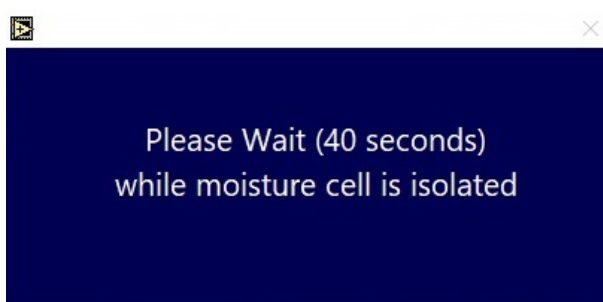

Figure 26: Isolate Warning
- **Isolate Sensor** closes the upstream and downstream valves for the moisture cell. This is done to prevent moisture contamination of the cell when in transport or for changing process lines. When **Isolate Sensor** is selected, the isolation valves are closed, and a message is displayed (see Figure 26) advising the user to wait 40 seconds for the moisture cell to be fully isolated.